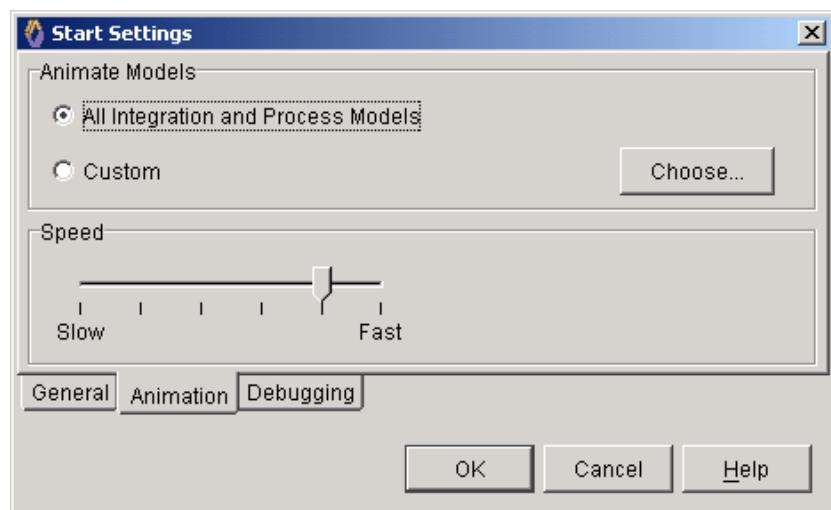

Figure 27-20 Start Settings (Animation) Dialog Box
1. Select **Project > Start Settings** (Figure 27-20), and then click the **General** tab (if the tab is not already selected by default).
- b. Click **OK**. You are returned to the **Start Settings** (Figure 27-20) screen.